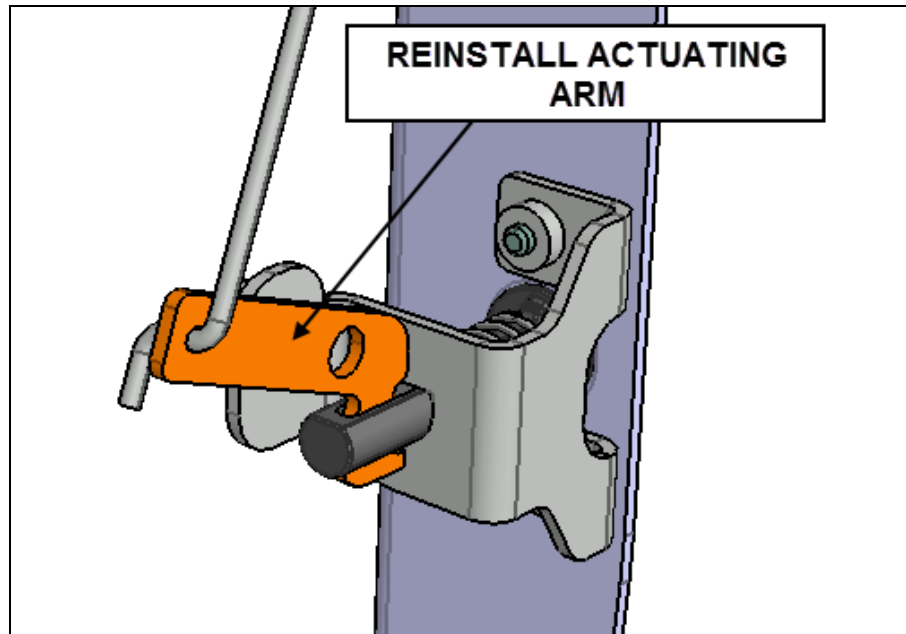

FIG.24 ACTUATING ARM ENGAGEMENT
23. Apply slight pressure to the latch pin tip and re-engage the actuating arm in the pin slot (also engage actuating rod) (Fig.24).